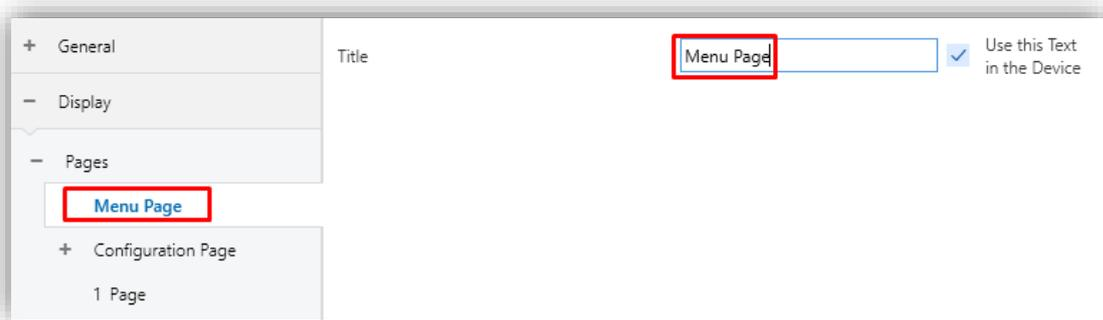

Figure 31. Menu
- **Title:** text field that identifies the menu pages. In addition, this field allows changing the name of the tab in ETS left menu, as shown in the Figure 31.